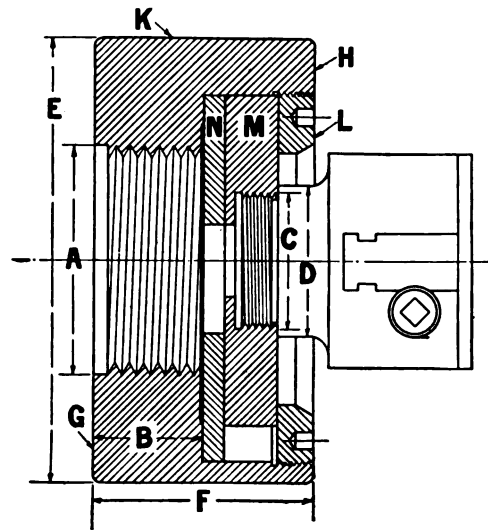

FIG. 2. SECTION THROUGH BORING HEAD
The style "A" boring head consists of a cylindrical cast iron body "K" (Fig. 2) threaded at "A" to fit the machine spindle or a taper shank. A circular offset plate "M" is held against the face of body "K" by means of the gib ring "L". Offset plate "M" is threaded to receive the drill chuck or boring bar and rotates with the head, but is adjustable across its face by means of a screw which is graduated to .001 in. (0.03 mm.). This construction gives the following advantages: (1) The micrometer screw makes possible a close, accurate adjustment for any tool which may be carried by the offset plate, (2) The drill chuck is brought close